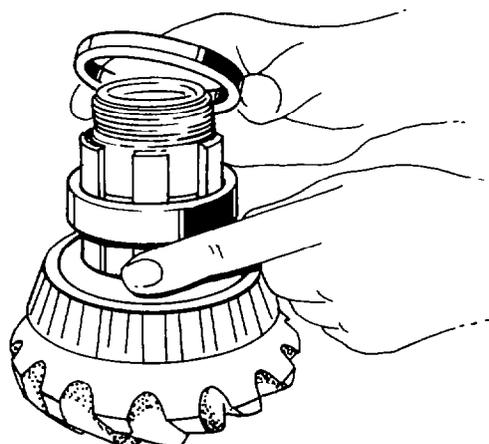

Fig. 306 — Fitting Spacers
g. Install the spacers in their respective position on the bevel pinion shaft (see fig. 306), then install the bevel pinion housing onto the pinion shaft.